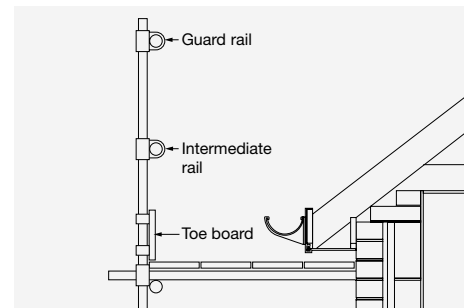

Fig. 3 – Sloping roof edge protection
Where a person can fall from the lower edge of a sloping roof, a catch barrier should be provided at the edge (scaffolding as shown in Figs. 3 and 4 is ideal).
- have a 150mm high toe board (Fig. 3)